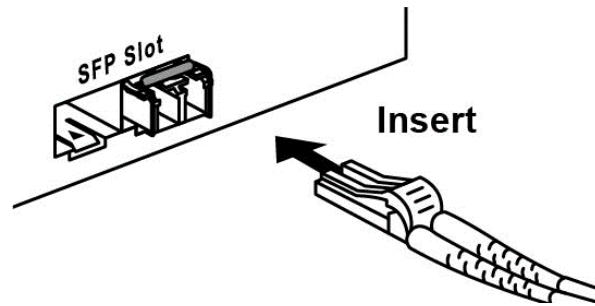

Figure 2.7: LC Connector to the Transceiver
Step 2. Insert the fiber cable of the LC connector into the transceiver as shown below in Figure 2.7.